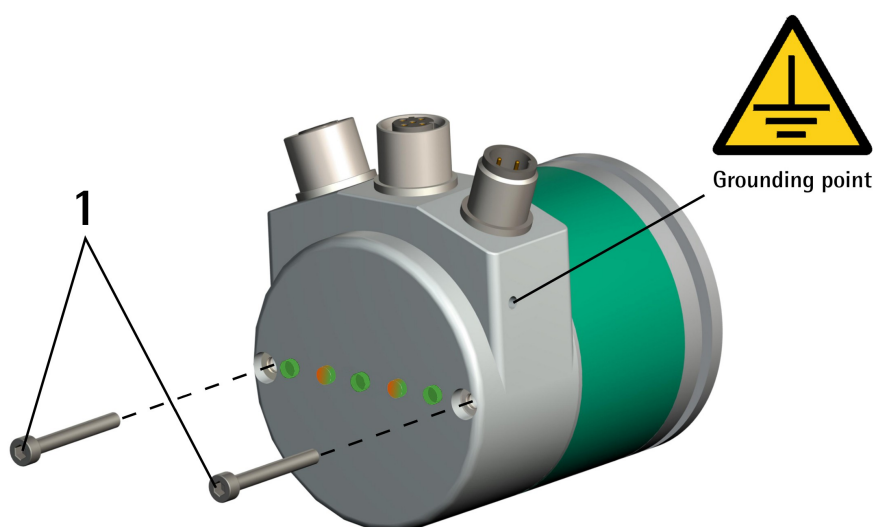

Figure 2 - Removing the connection cap
connection cap. For any information on removing the connection cap please refer to the following "4.9 Connection cap (Figure 2)" section.
- remove the connection cap as explained in the following "4.9 Connection cap (Figure 2)" section;
- replace the connection cap as explained in the following "4.9 Connection cap (Figure 2)" section;
4.9 Connection cap (Figure 2)